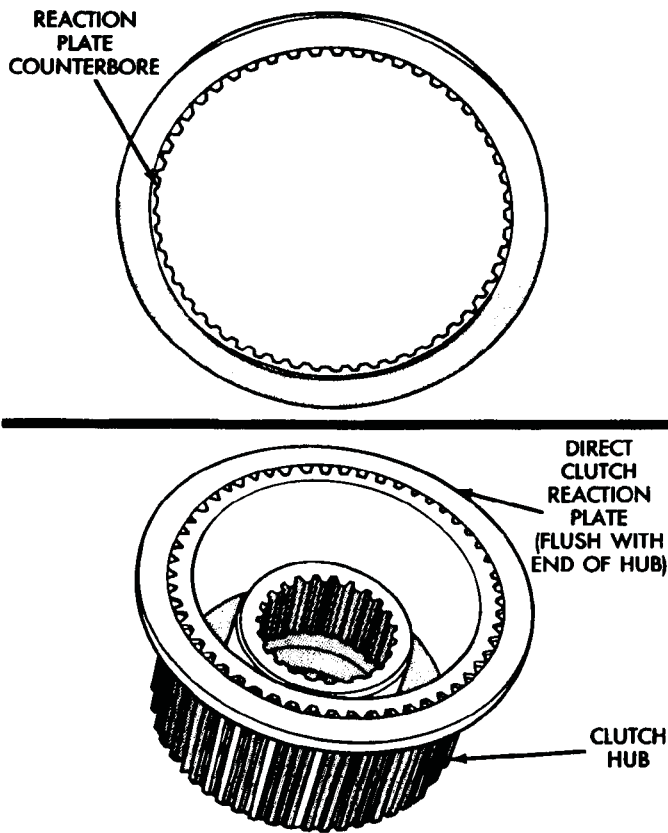

Fig. 57 Correct Position Of Direct Clutch Reaction Plate
(20) Install direct clutch reaction plate on clutch hub. **Note that one side of reaction plate is counterbored. Be sure this side faces rearward. Splines at rear of hub are raised slightly and counterbore in plate fits over these splines. Plate should be flush with this end of hub (Fig. 57).**
(21) Install remainder of direct clutch components as follows: